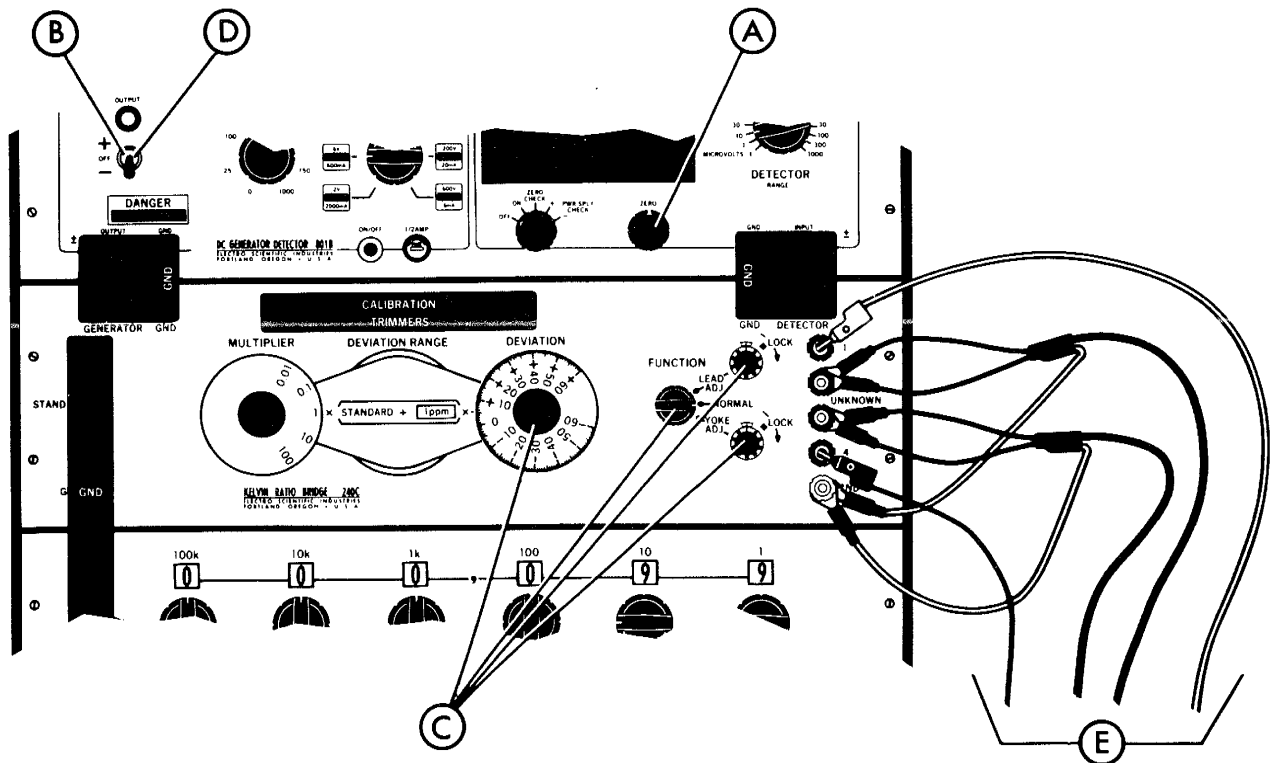

Figure 5-20. Calibration of 100 ohm SR1
20. Measure the deviation of the SR1 from the series-parallel 100 ohm transfer standard. Reference Figure 5-20.